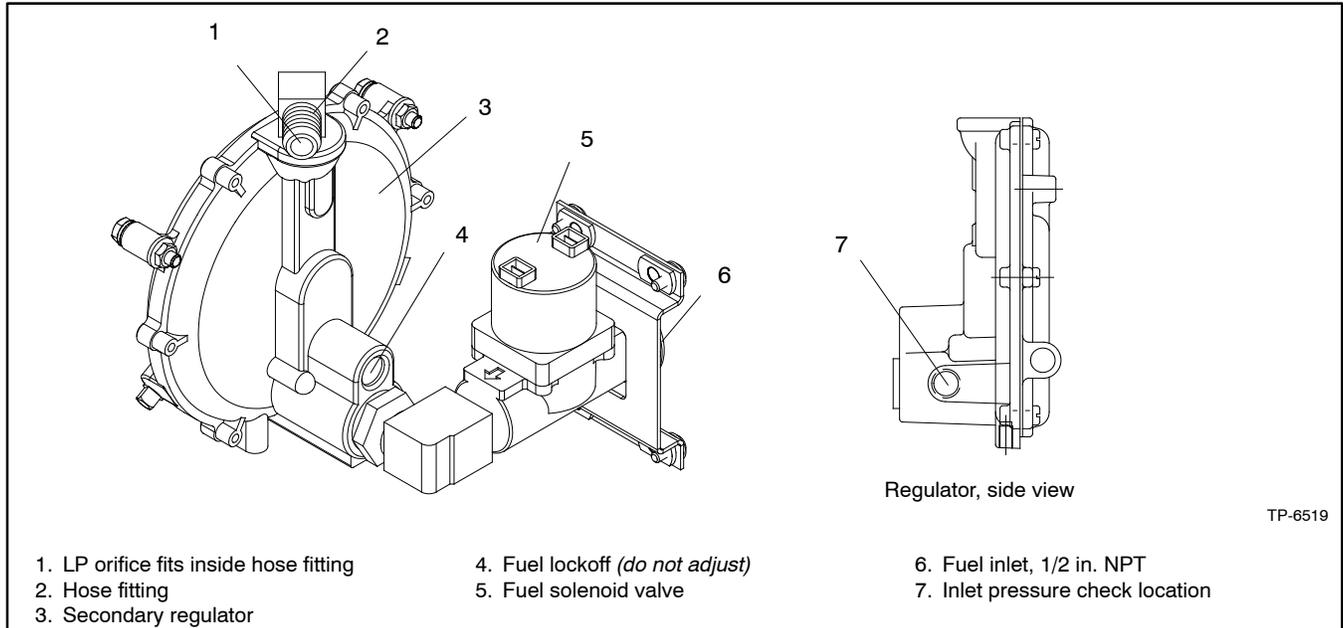
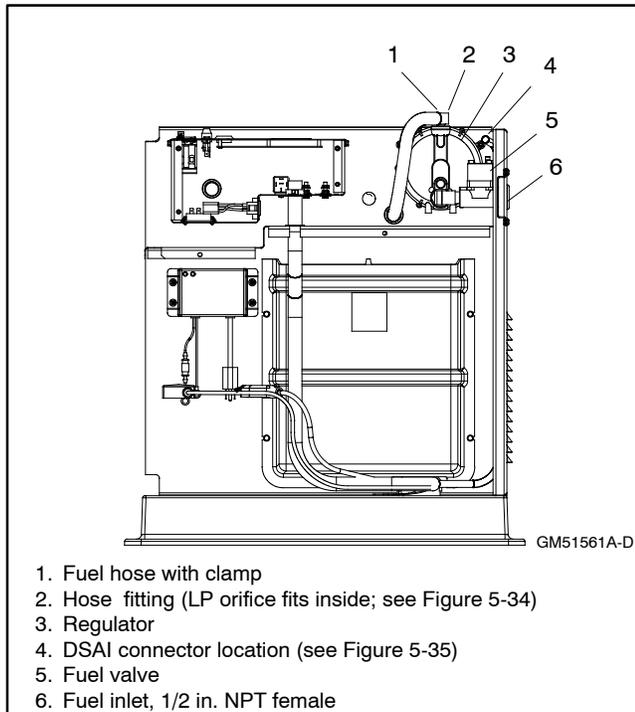

Figure 5-32 Fuel Regulator with LP Orifice and Fuel Solenoid Valve
Figure 5-33 Fuel System Components, Air Inlet Side
The fuel lockoff prevents fuel flow when the engine is not operating. See Figure 5-32. Do not try to adjust the fuel pressure, fuel mixture, or engine speed using the fuel lockoff.
Use a gauge or manometer to check the fuel pressure at the secondary regulator inlet. See Figure 5-32. Measure the fuel pressure with the generator set running at rated load. The fuel pressure should be 178–280 mm (7–11 in.) water column or 1.7–2.7 kPa (4–6 oz./in.²). Contact the fuel supplier if the inlet pressure is not within the specified range.
For LP vapor fuel, an orifice is used in the fuel line. The unit is typically shipped set up for natural gas, with the loose orifice tied near the fuel line. To convert to LP vapor, install the orifice and disconnect the spark advance leads as described below. See Figure 5-32 and Figure 5-33.
5. Remove the hose clamp and fuel hose from the hose fitting. See Figure 5-33.